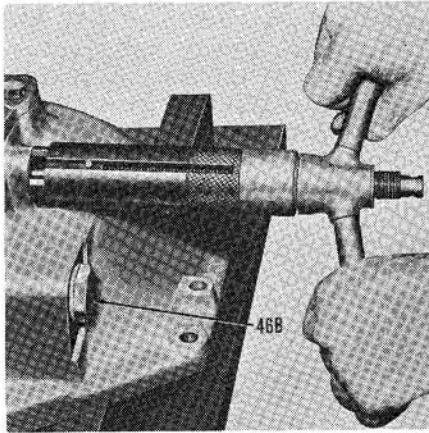

Fig. 208—Removing check valve seat; English tool is shown. Refer to text for procedure. Early type relief valve is (46B).
equivalent, thread puller rod into check valve seat or inner bushing with late type seat and pull the bushing and/or seat from lift cover as shown in Fig. 208.
**264. SYSTEM RELIEF VALVE.** The system relief valve can be removed from front end of lift cover without removing cover from tractor; refer to (46B—Fig. 208). The relief valve is removed as an assembly.